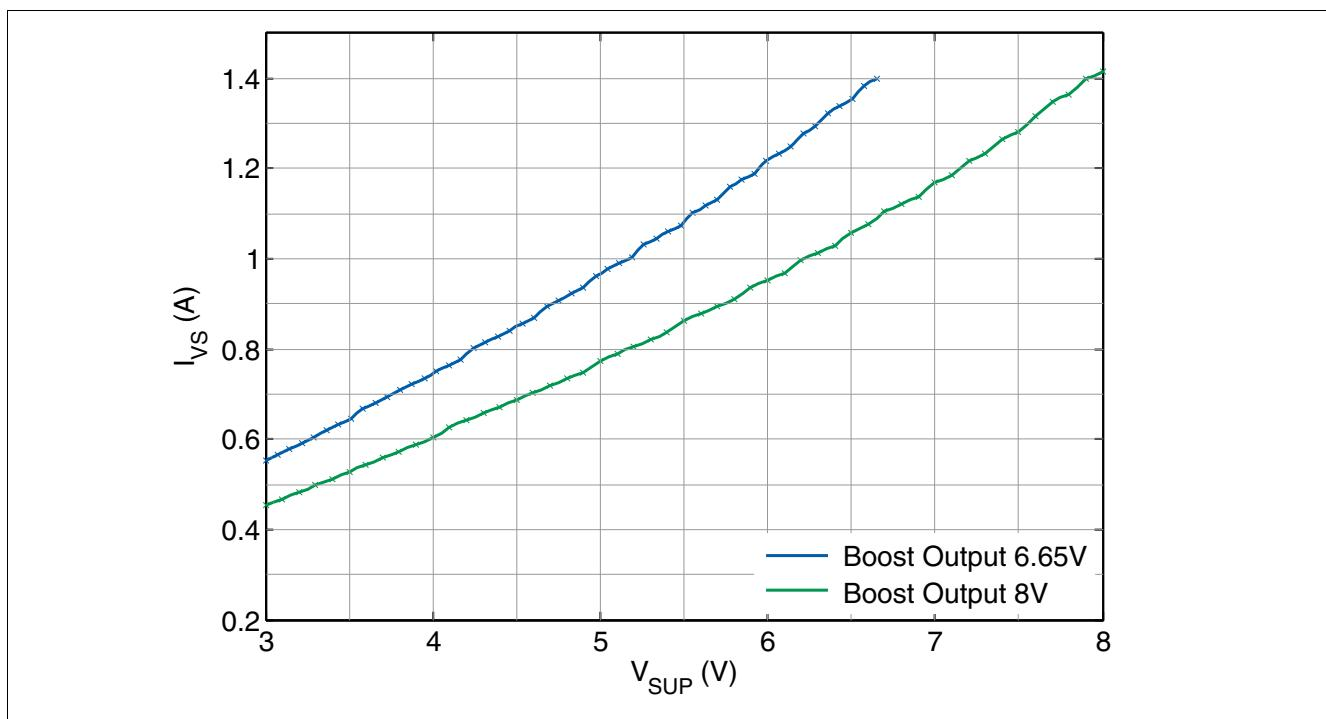

Figure 13 Maximum DCDC Boost current capability versus VSUP (TLE9271..3QX version).
- 3) Values verified in characterization with Boost converter specified in Chapter 15.1. Not subject to production test; specified by design. Refer to Figure 13 for additional information.
Note: Figure 13 is based on simulation results (specified by design), with Boost converter external components specified in Chapter 15.1.